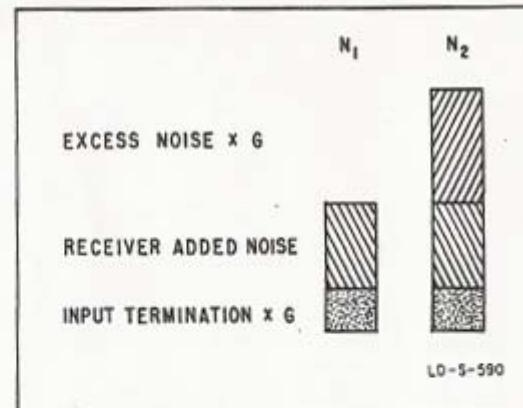

Figure 4. Representation of total noise power output for the "twice-power" method of manual noise figure measurement.
Figure 4 illustrates this condition, in which the output noise power contributed by the excess noise source exactly equals the sum of the amplified input termination noise plus the receiver noise contribution. Since this excess noise ratio was adjusted with the attenuator to be equal to input termination noise plus receiver noise (thereby causing N₂ = 2 N₁), from equation (5) it can be seen that the attenuated excess noise ratio is equal to the noise figure of the receiver. In the case of an argon source, it can be read as 15.2 db minus the attenuator setting (in db).